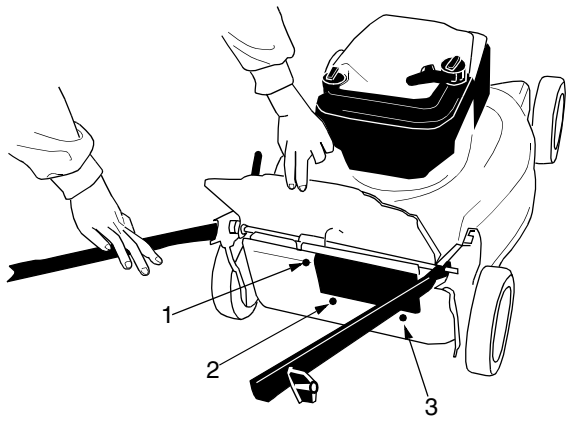

Figure 18
- Replace the eight phillips head screws that hold the large baffle in place. Refer to Figure 18.